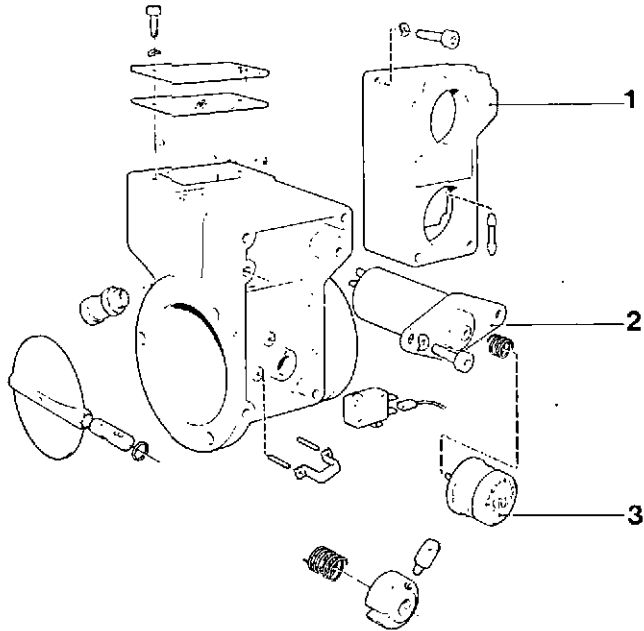

Fig. 29. Emergency stop, exploded illustration
When assembling the emergency stop it is important that the stop button (3, fig. 29) is centrally located in the cover (1) so that it does not jam.